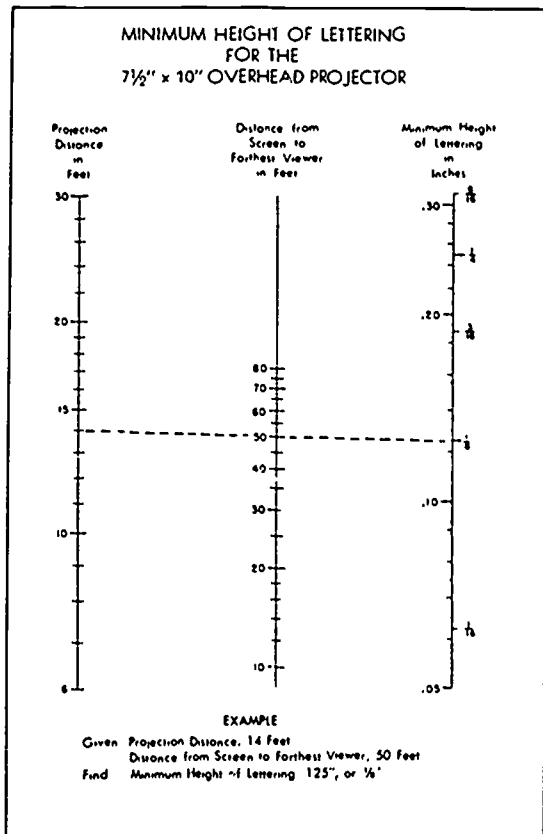

Figure 2-3. Height of lettering.
**Determining Minimum Lettering Height for Overhead Projectuals.** The minimum height for the lettering on overhead projectuals depends on the distance of projection and the distance between the screen and the farthest viewer. Calculating this minimum height is a complex mathematical operation. You have to consider such factors as 20/20 vision and how much the projected image will be enlarged. Therefore, the operating instructions of most projectors include such charts as the one shown in figure 2-3 which does the calculating for you. All you need to use with this chart is a straightedge. Let's see how the chart works.